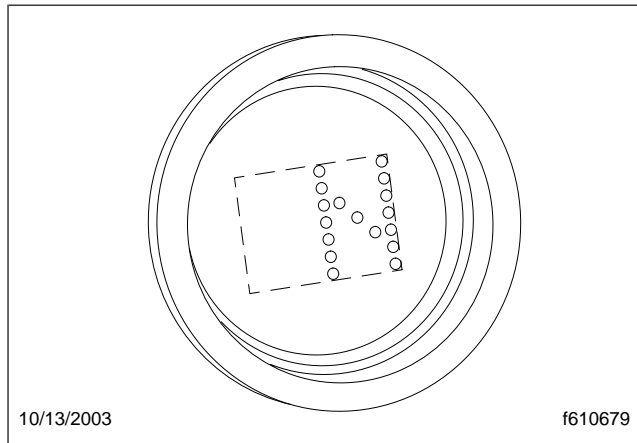

Fig. 8.12, Neutral Display
Neutral (N) is directly below R on the four-position selector switch located at the end of the SmartShift control lever. To select N, press in the neutral lock button and move the selector switch to the position below R. When neutral is selected, the letter "N" displays on the current gear indicator. See Fig. 8.12.